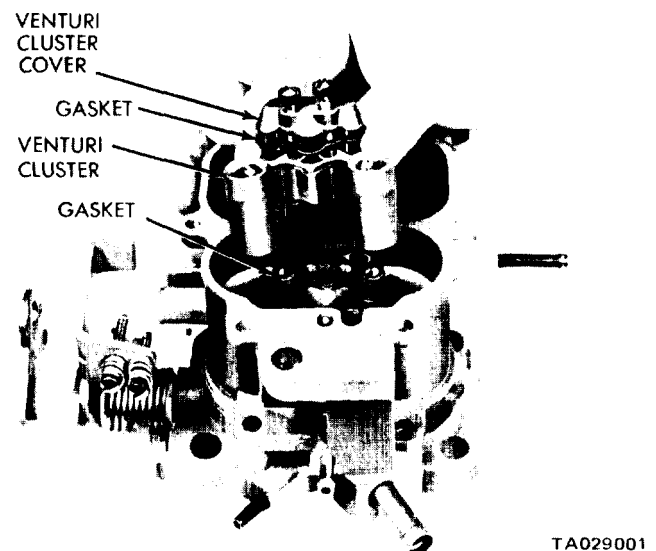

Figure 12-8. Removing or Installing the Venturi Cluster.
(15) Remove the venturi cluster screws to lift the venturi cluster and gaskets up and away from the main body (figure 12-8). Discard the gaskets.
(e) Install the discharge check ball. Put new gaskets on the venturi cluster and install the cluster in position in the main body (figure 12-8). Install and tighten the cluster screws securely.